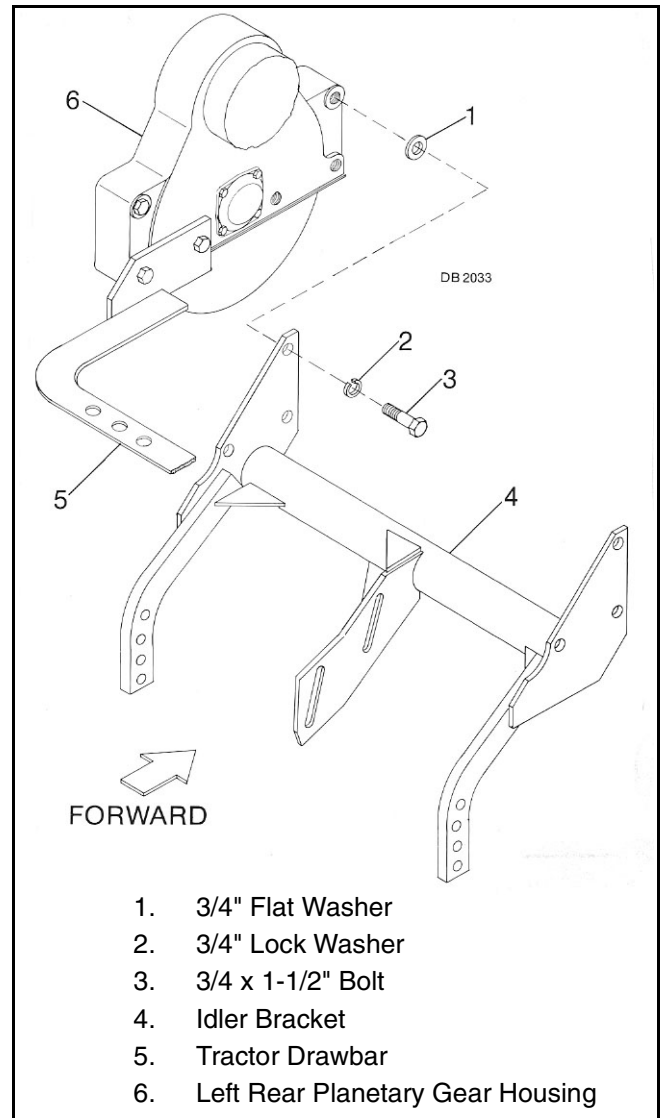

Figure 14. Idler Bracket Installation
Install idler bracket (4) with 3/4" hardware as shown in Figure 14 and torque bolts to 300 lbs-ft.